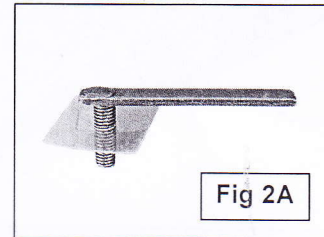

Fig 2A
3. Select (2) 10mm Bolt Plates and (2) 10mm Plastic Retainers, (Figure 2A). Partially thread the Retainers onto the Bolt Plates. NOTE: The Plastic Retainer is designed to help hold the Bolt Plate in place during Bracket installation.